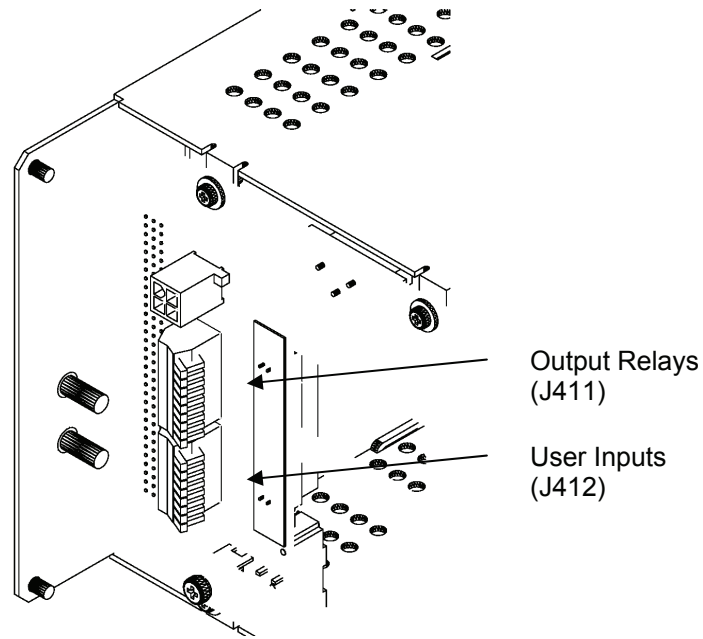

Figure 2.9-1 Interface Connections
There are three output relays available that provide outputs via Form "C" contacts. The output relays are named Minor, Major and Out Relay 1. Various system alarm conditions can be assigned to any of these three output relays. Most alarm conditions are shipped programmed to Minor or Major Relay. Wago connectors are located on the backplane card mounted in the left rear of the unit. Refer to the board layout in Figure 2.9-1 for Output Relay connections. The Wago connectors accept wires 26 AWG to 20 AWG (0.129 mm² to 0.518 mm²). To connect the relay output, remove ¼ in (6 mm) of insulation from the end of the wire. Push down the white tab on the Wago connector, insert the stripped wire and release the tab to make the connection. The relay contacts should only be used to switch resistive loads of 0.5 A or less at 60 V or less. Figure 2.9-2 shows the alarm output connection designations. Whenever possible use the common and normally closed contacts. If the alarm wiring gets pulled loose, or the controller is removed, you will get an alarm. The Major relay is energized (C-NO contacts closed) during normal (non-alarm) operating conditions; the other relays energize when an alarm condition occurs. If your Major relay wiring uses the C-NO contacts, then a major relay output will be seen whenever the controller is removed from the shelf.
Four external alarm inputs with assignable relay outputs are available. User 1 and 2 inputs respond only to external dry contact closures between normally open (NO) and common (C) and User 3 and 4 respond only to external dry contact openings between normally closed (NC) and C. A Wago connector is located on the backplane card mounted in the left rear of the unit. The Wago connectors accept wires 26 AWG to 20 AWG (0.129 mm² to 0.518 mm²). To connect the user input, remove ¼ in (6 mm) of insulation from the end of the wire. Push down the white tab on the Wago connector, insert the stripped wire and release the tab to make the connection. Refer to **Figure 2.9-1** for backplane board connections.